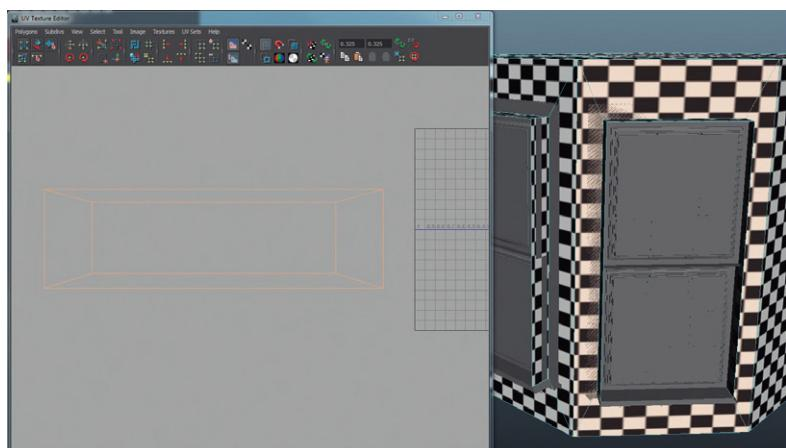

FIG 5.11 Selecting the offending polygons. Notice that they also select in the UV Texture Editor.
Step 10: Select the faces of the diagonal wall (Fig. 5.11). Do this in the View Panel.